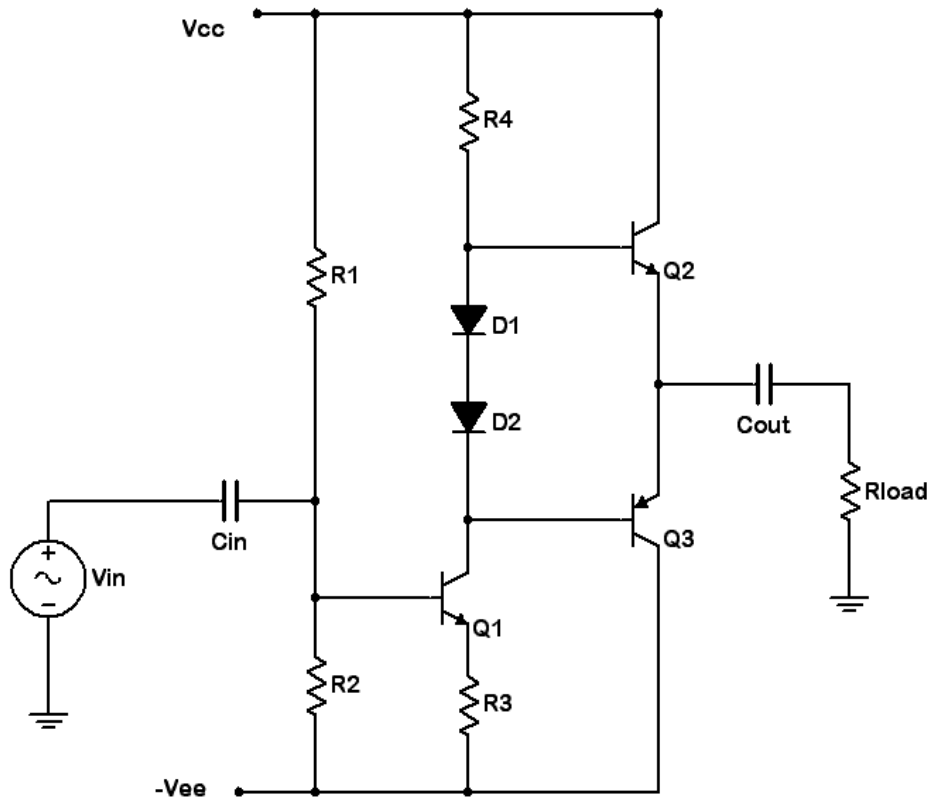

Figure 1
1. Consider the circuit of Figure 1 using $V_{cc} = 6$ volts, $V_{ee} = -6$ volts, $R_1 = 6.8$ k Ω , $R_4 = 1$ k Ω , $R_3 = 100$ Ω , $R_{load} = 100$ Ω , $C_{in} = 1$ μ F and $C_{out} = 100$ μ F. R_2 is an adjustable resistance (pot or decade box). For proper bias, the emitters of the output transistors should be at 0 volts DC. For this to be true there must be a voltage of $V_{cc} - V_{be}$, or approximately 5.3 volts, across R_4 . Ignoring base currents, this establishes the I_{CQ} of transistor 1 which in turn creates a potential drop across R_3 . From this the voltage across R_2 may be determined. Knowing the value of R_1 and the total supply presented, Ohm's law or the voltage divider rule may be used to compute the required setting for R_2 . Compute the required value for R_2 and record it in Table 1.
4. Build the circuit of Figure 1 using $V_{cc} = 6$ volts, $V_{ee} = -6$ volts, $R_1 = 6.8$ k Ω , $R_4 = 1$ k Ω , $R_3 = 100\Omega$, $R_{load} = 100$ Ω , $C_{in} = 1$ μ F and $C_{out} = 100$ μ F. Set the pot or decade box (R_2) to the value calculated in Table 1. Disconnect the signal source and inspect the DC voltage at the load. Adjust R_2 until this voltage goes to 0 volts. Record the resulting value of R_2 in Table 1.